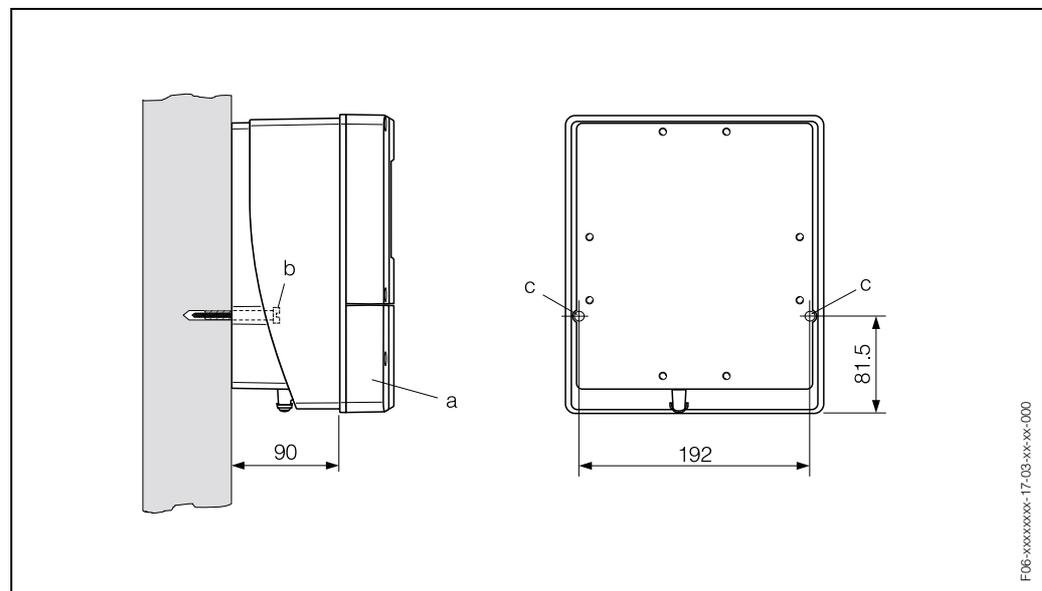

Fig. 11: Mounted directly on the wall
1. Drill the holes as illustrated in Fig. 11.